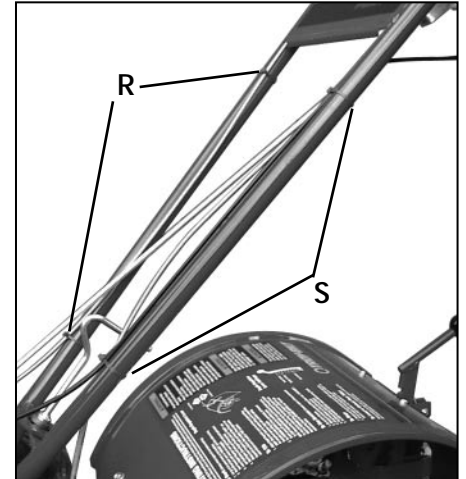

Figure 2-14: Attach throttle cable with cable ties (R). Attach wheel gear cable and reverse clutch cable with cable ties (S).
6. Secure the throttle cable to the right-side handlebar with two plastic ties (R, Figure 2-14) located about two feet apart. The serrated side of the tie should be on the inside of the loop. Snip off any excess tie length with scissors.
5. Secure the wheel gear cable and the reverse clutch cable to the left-side handlebar with two plastic ties (S, Figure 2-14) located about two feet apart. Snip off any excess tie length with scissors.